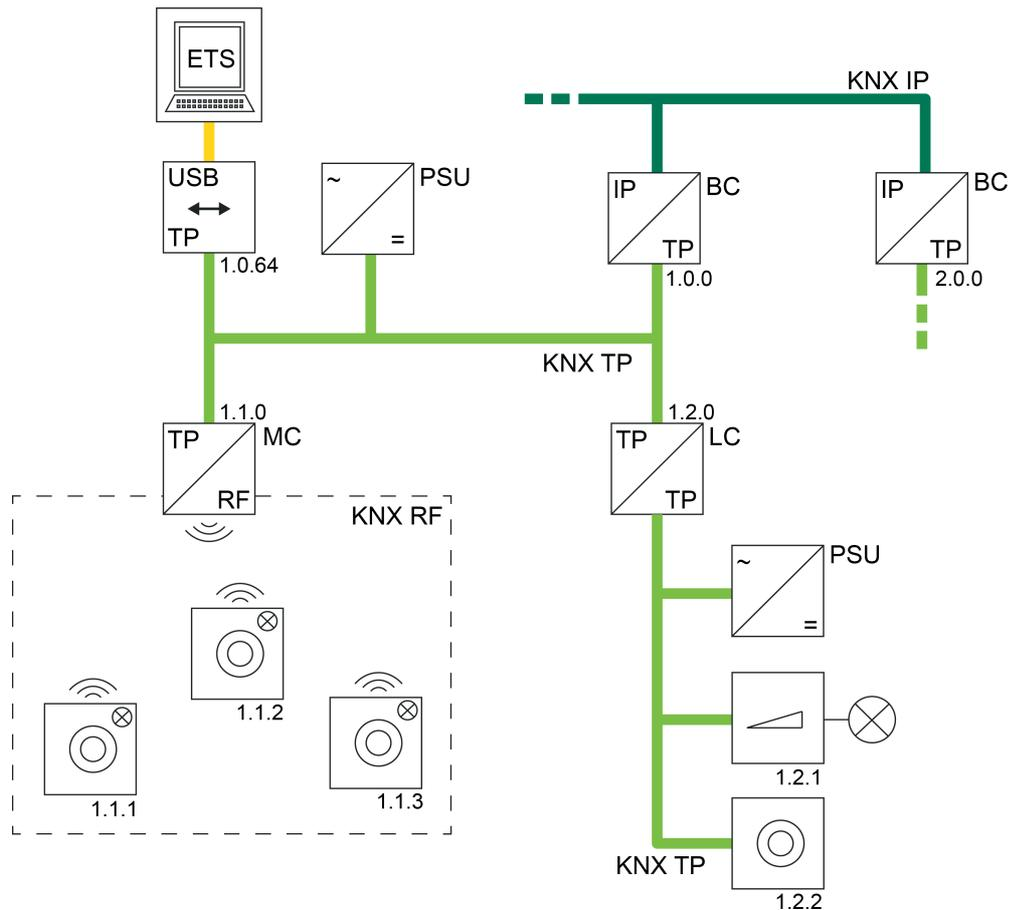

Figure 42: Example of a possible KNX topology with a KNX TP USB data interface
- Use of a KNX TP USB data interface (figure 42):